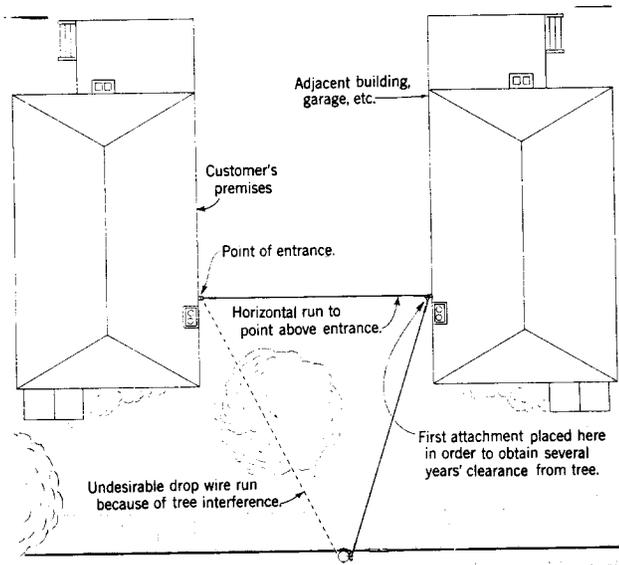

Fig. 5 — Avoiding Tree Interference by Attaching to an Adjacent Building
2.05 Spanning to an Adjacent Building — By spanning to an adjacent building, garage, etc, as shown in Fig. 5, adequate clearance between drop wires and trees can often be obtained.